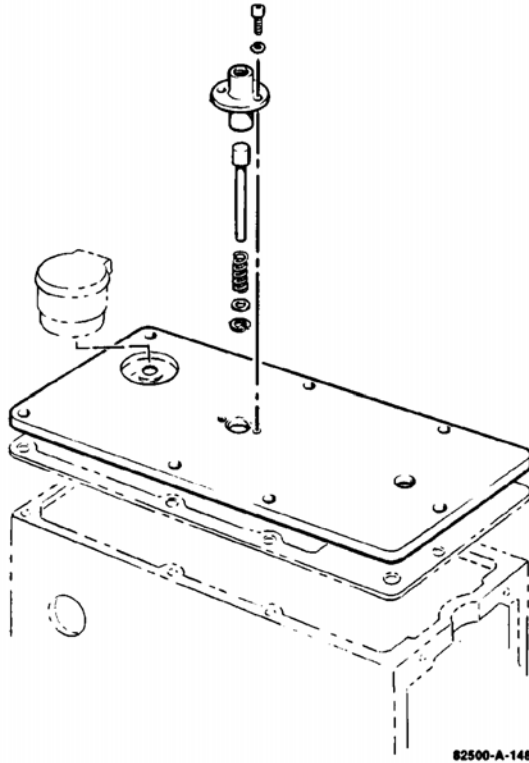

Figure 1-5. Pneumatic Starting Device
**Pneumatic Starting Device (Figure 1-5)**